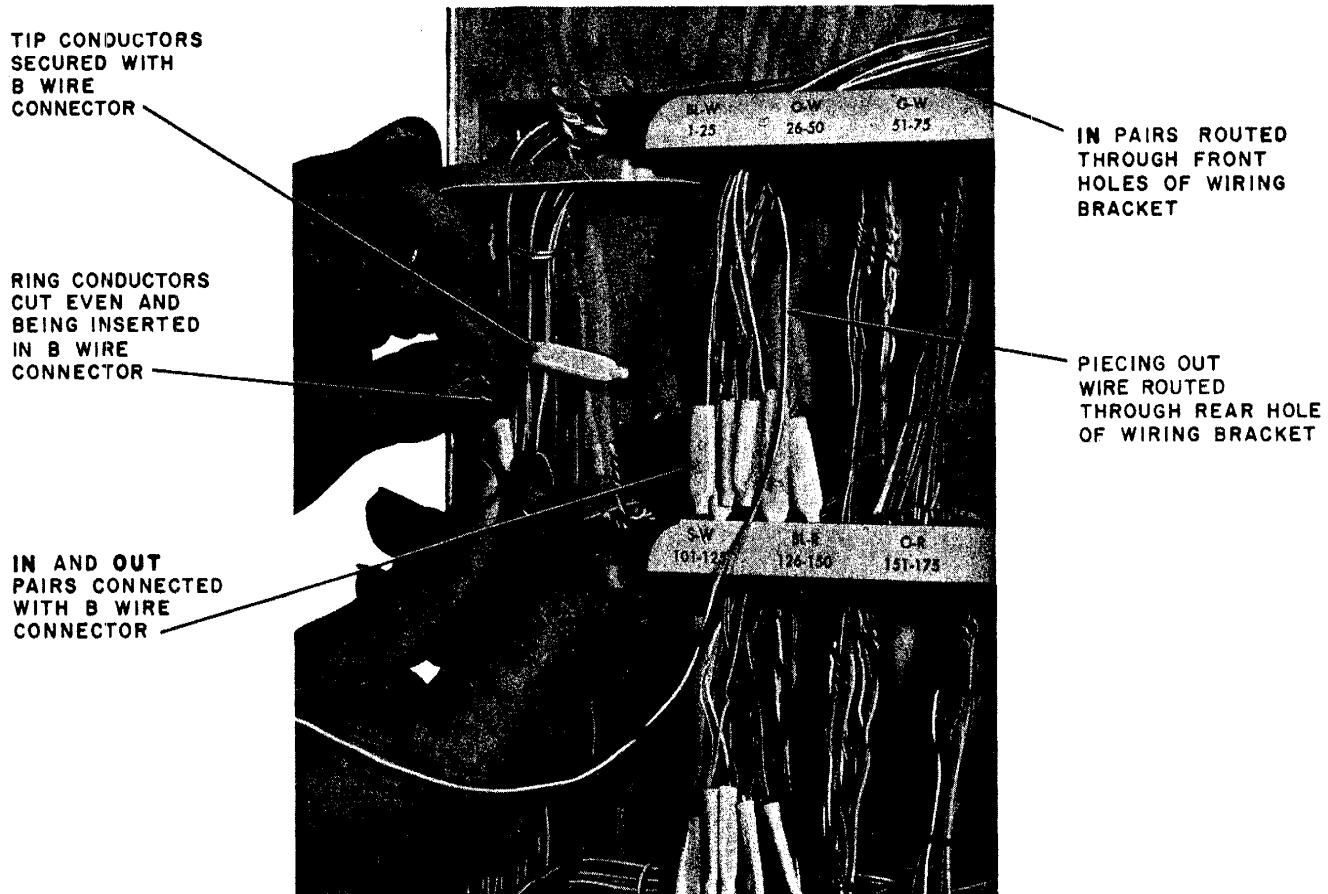

Fig. 12—Piecing-Out *OUT* Cable Pair
6.01 If for any reason the *OUT* cable pair is too short to reach an assigned wiring bracket hole, piece-out the conductor as follows (Fig. 12). Use wire having the same colored insulation and gauge as the cable pair.